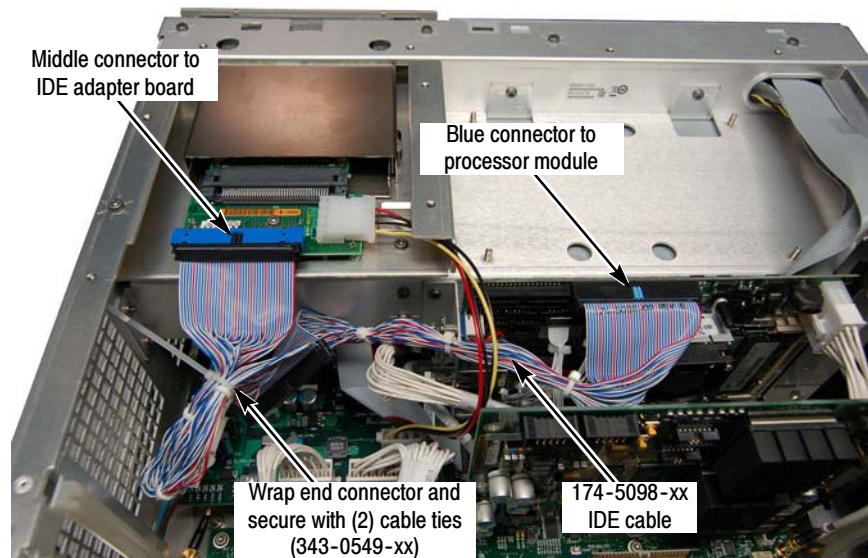

Figure 29: Connecting the IDE cable
8. Connect the middle connector of the IDE cable to connector P1 on the IDE Adapter board. See Figure 29.